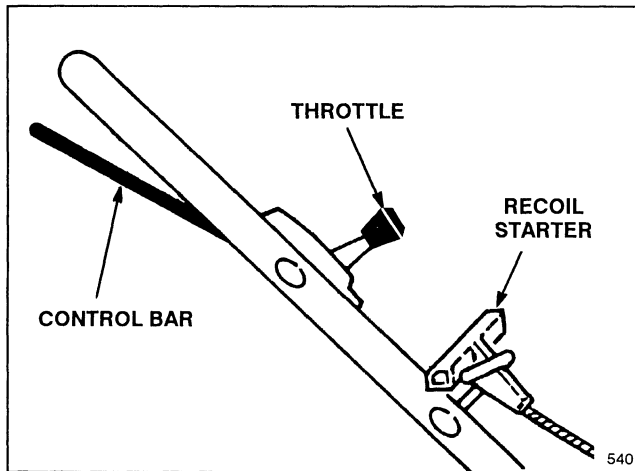
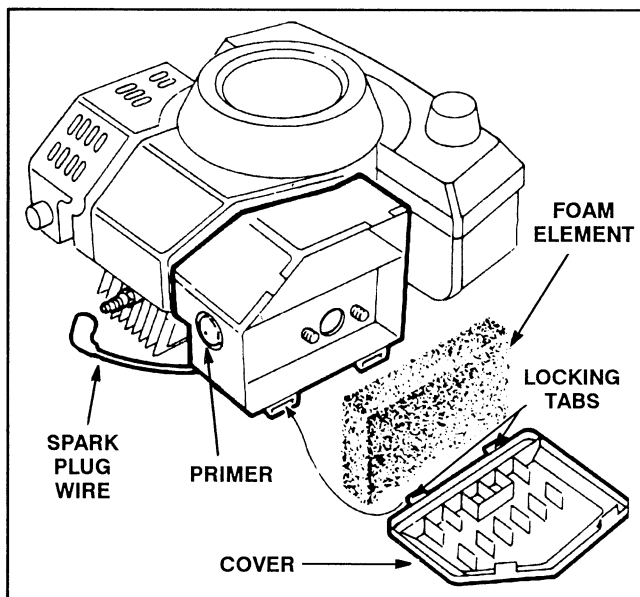

Figure 5
Figure 7
1. CONTROLS—Throttle, control bar and recoil starter are on upper handle (Fig. 5).
2. Push spark plug wire onto spark plug (Fig. 7).
3. STARTING—Move throttle to  (CHOKE) (Fig. 5). Cover hole in center of primer with thumb and push once (Fig. 7). Lift control bar to handle and hold. Pull fingertip starter out until positive engagement results; then pull vigorously to start the engine. After engine starts, remove throttle from  (CHOKE) and regulate as desired.
1. Stop engine and wait for all moving parts to stop. Pull wire off spark plug (Fig. 7).
2. Lift tabs at top of air cleaner cover and pivot cover down. Clean cover thoroughly (Fig. 7).
3. If outside of foam element is dirty, remove it from air cleaner body (Fig. 7). Clean thoroughly.
1. Stop engine wait for all moving parts to stop. Pull wire off spark plug (Fig. 7).